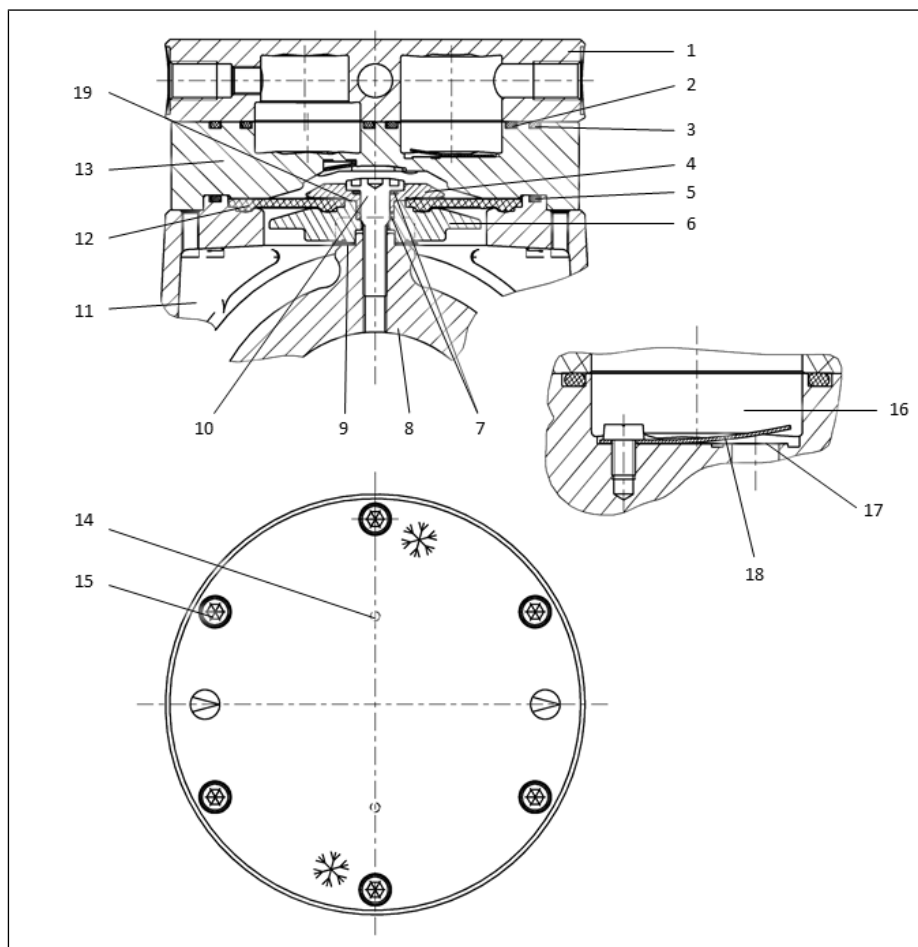

Fig. 16 Individual parts of the pump head
**According to Fig. 16
i The following item numbers refer to Fig. 16 unless specified otherwise.